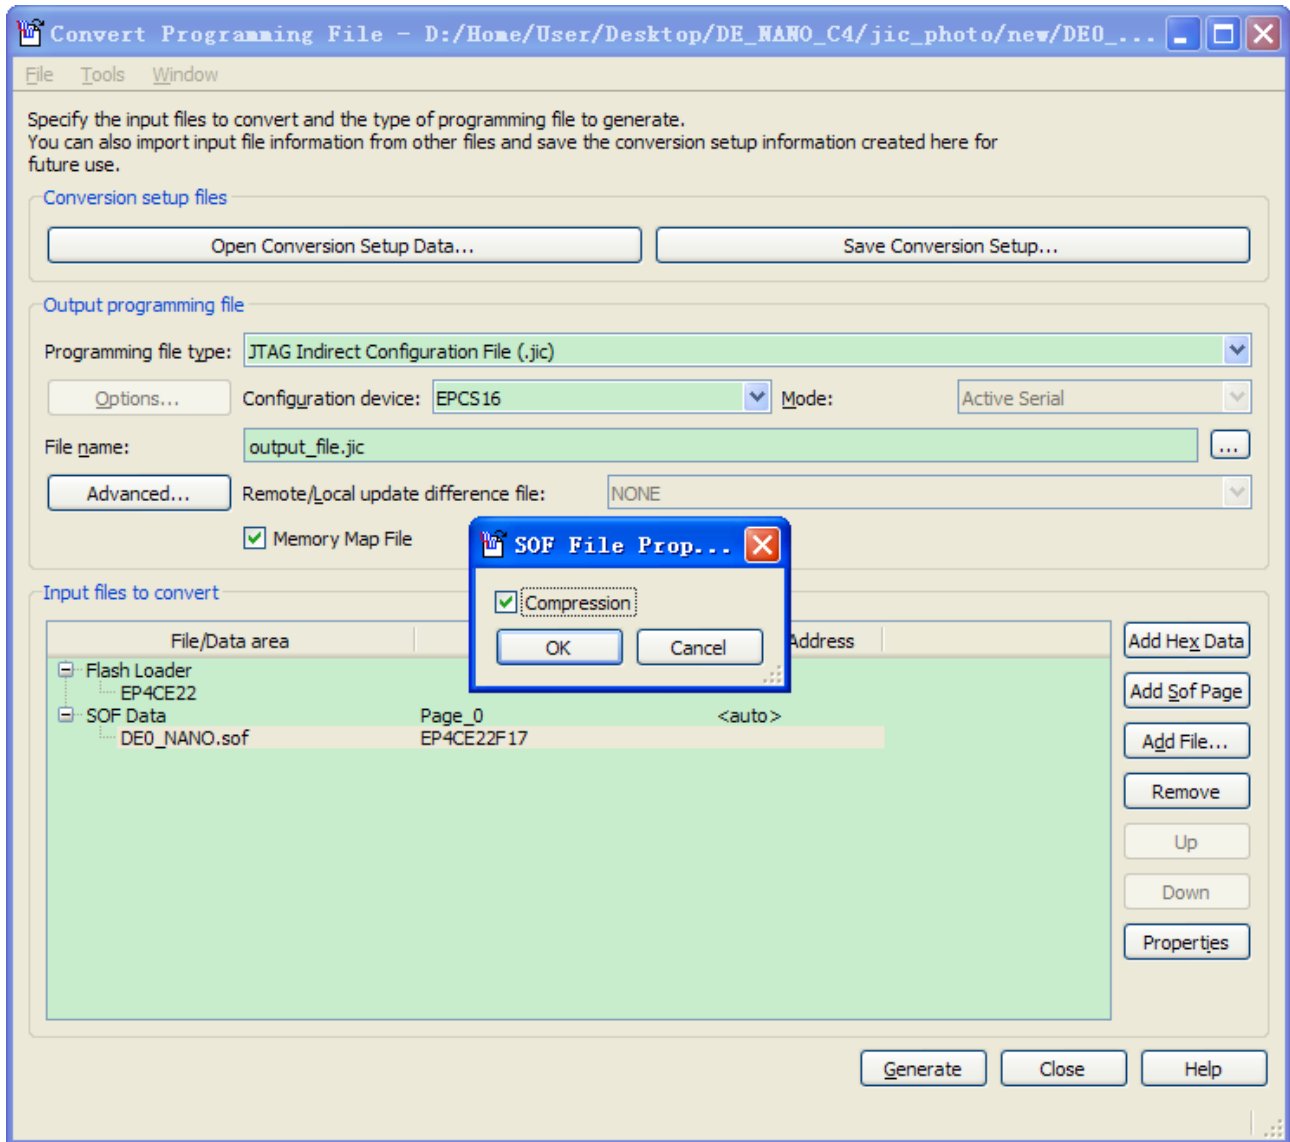

Figure A5 Compression the sof file
13. Select the .sof file, and Click the **Properties**. Select Compression, click **OK** See Figure A5.